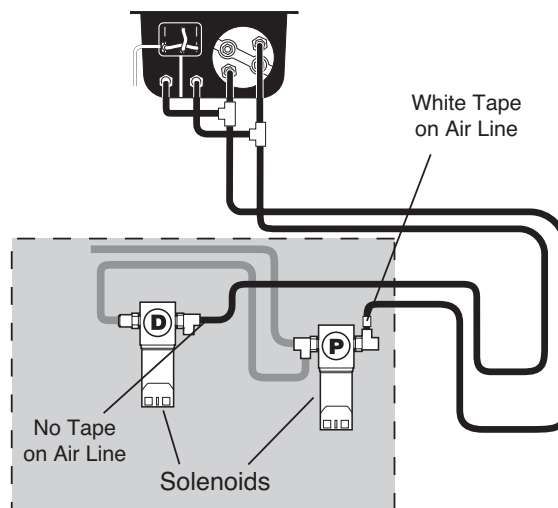

fig. 26
1. Connect the white taped air line to the one open leg of the tee fitting on passenger side solenoid (Fig. 26).
2. Connect the air line with no tape to the open leg of the tee fitting on the driver side solenoid (Fig. 26).